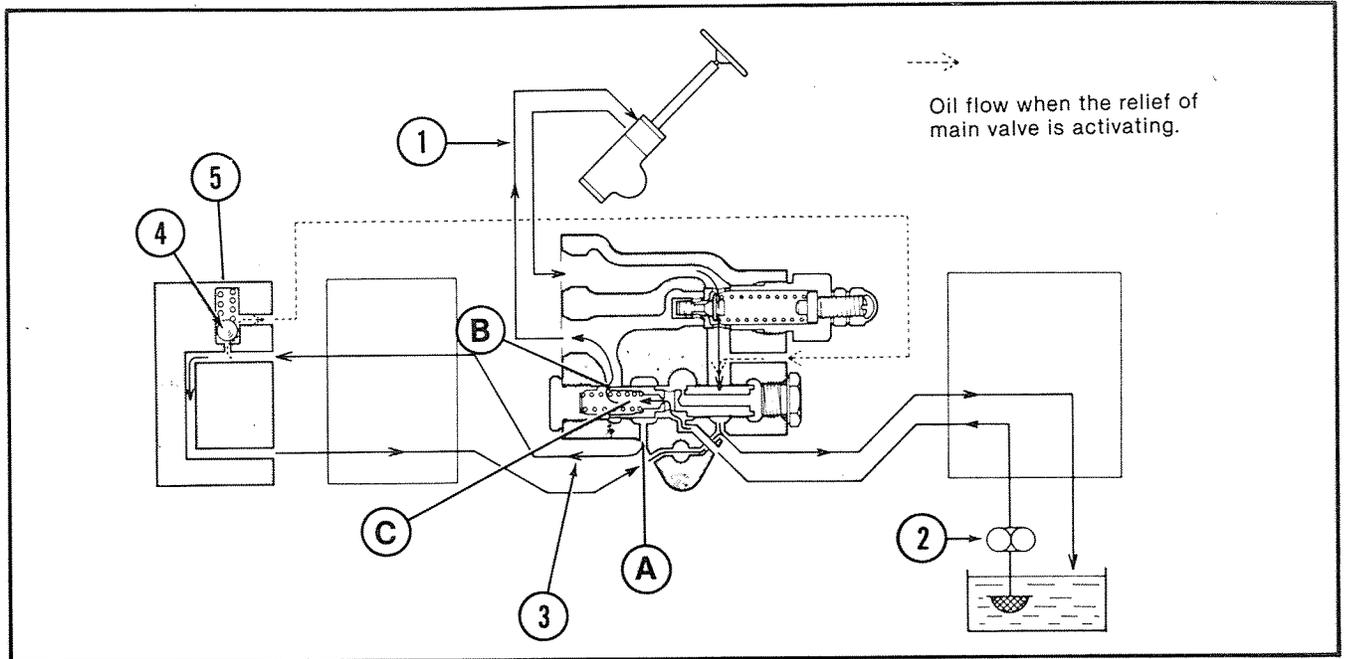

Figure 17
3. Oil flow when the power steering circuit is activated: When the power steering control valve is actuated and oil flows to the power steering piston, flow is restricted at B and pressure increases in C, Figure 17. Oil and spring pressure moves the plunger to the right. This reduces oil flow to the hydraulic lift A, and increases oil flow to the steering circuit to move the power steering piston. When the power steering piston reaches the end of the stroke, pressure increases in the steering circuit. The increased pressure unseats the relief poppet and excess oil is dumped into the return circuit. (See dotted line, Figure 17.) When pressure at C drops, the plunger moves left to return to controlled flow. When pump output exceeds the capacity of the tractor hydraulic lift circuit, the back pressure unseats the ball poppet in the flow control valve and bypasses oil back through the priority valve to sump.